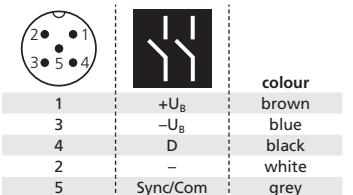

Fig. 2: Pin assignment with view onto sensor plug and colour coding of the microsonic connection cable
- ➔ Plug in the connector cable to the M12 connector, see Fig. 2.